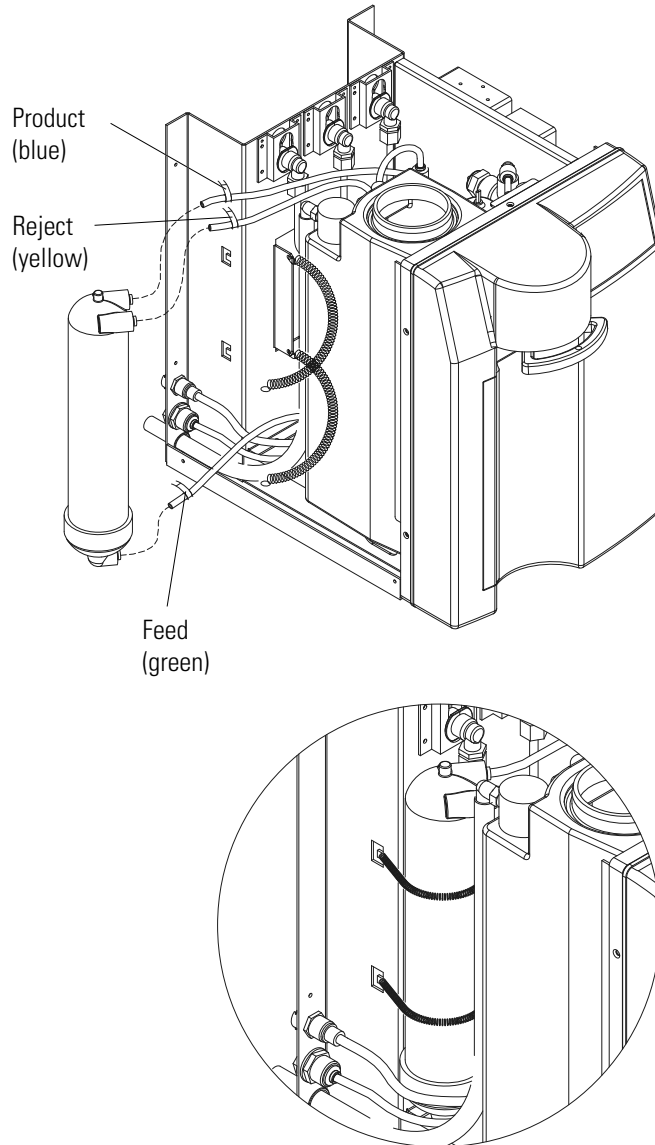

Figure 5-6. RO Membrane Installation
1. Remove the RO membrane from its packaging. Note the location of the FEED, PRODUCT, and REJECT connections on the housing. The correct orientation for the installed membrane will be vertical with the FEED connection down. Refer to Figure 5-6.